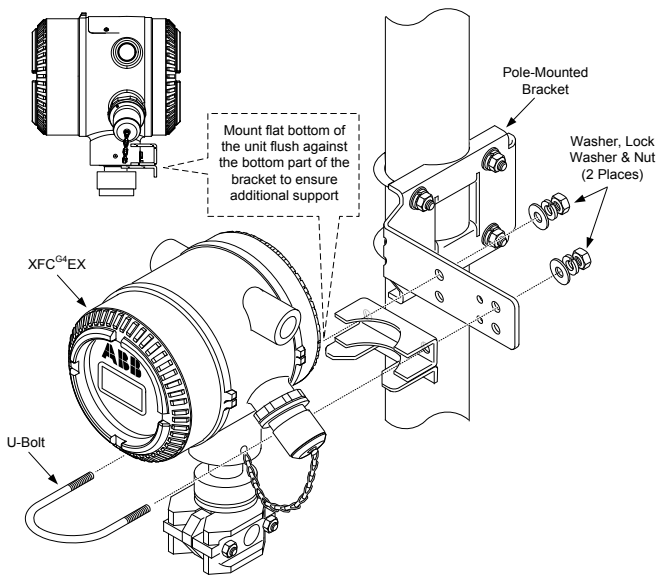

Fig. 3: Type A installation configuration
1. Position and align the provided back clamp to the pole mount bracket (Fig. 3).